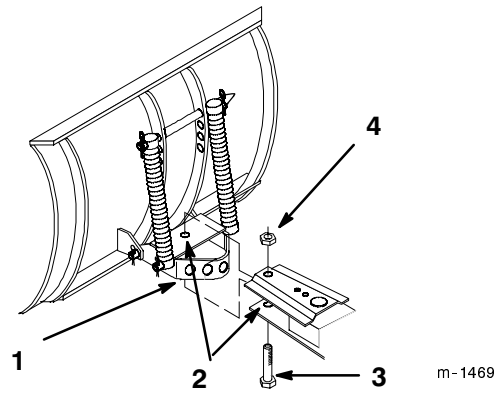

Figure 4
7. Slide the channel between the frame mount and secure it with a 3/4-16 x 3-3/4 in. (95 mm) bolt and a 3/4 in. locknut (Fig. 4).
Note: Insert the bolt up from the underside of the frame (Fig. 4).